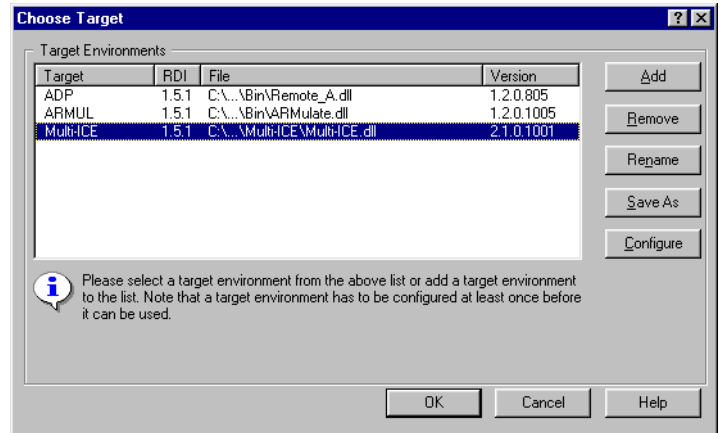

Figure B-1 The Debugger Configuration dialog box
2. Select **Options** → **Configure Target** in AXD. This displays the target configuration dialog box shown in Figure B-1 on page B-3.
The list of targets and the version numbers shown in Target Environments might vary from those shown in Figure B-1 on page B-3.